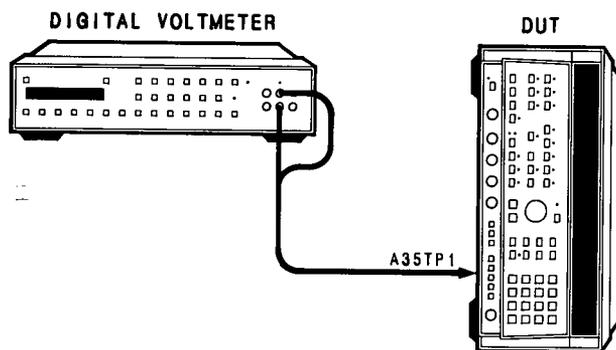

Figure 5-1. +22 Volt Power Supply Adjustments Setup
1. Position DUT in the test position and connect equipment as shown in Figure 5-1.